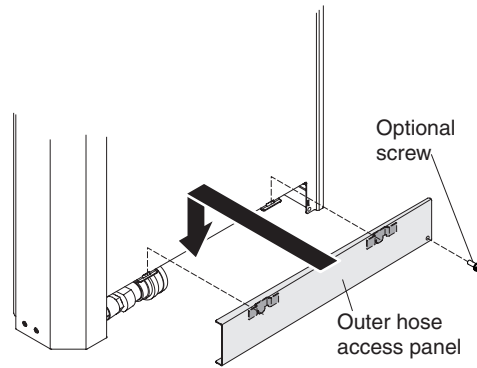

Figure 43. Installing the outer hose access panel
13. (Optional) Secure the outer hose access panel to the heat exchanger with an M4 screw (see Figure 43).